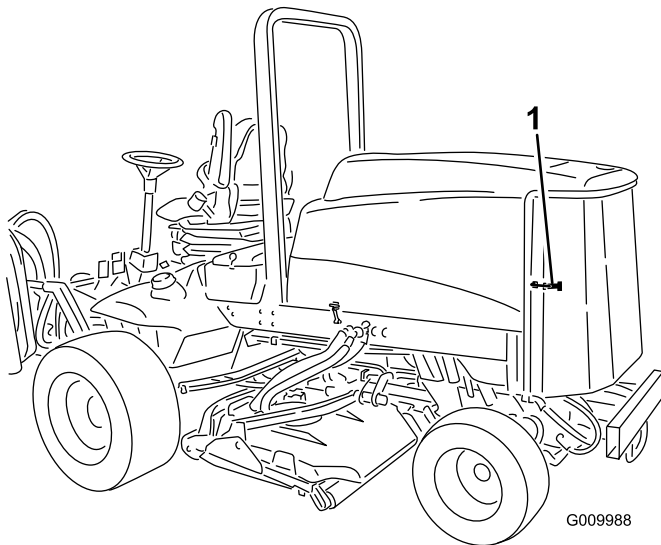

Figure 49
1. Unlatch and swing open the rear screen (Figure 49). Clean the screen thoroughly of all debris.